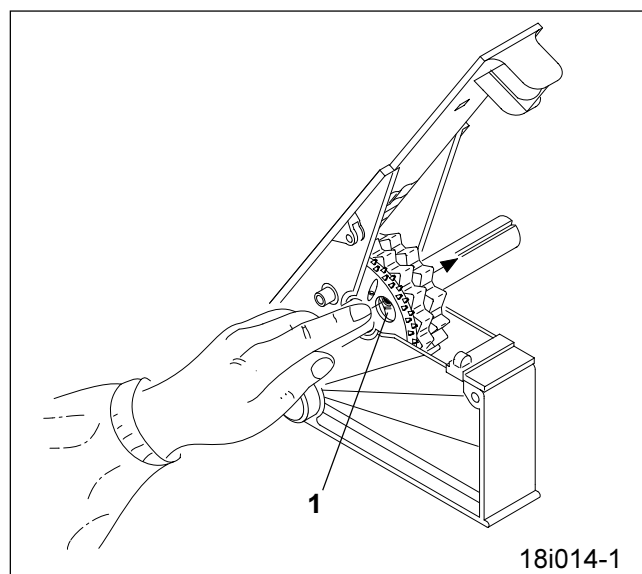

Fig. 10.4
- Move the gearbox setting lever (Fig. 11.1/2) repeatedly up and down until the holes (Fig. 10.4/1) of the fine seed metering wheels are visible.